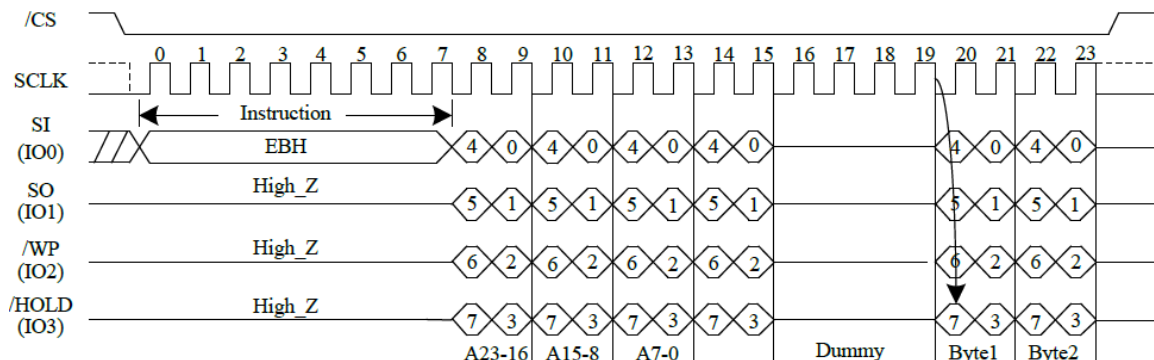
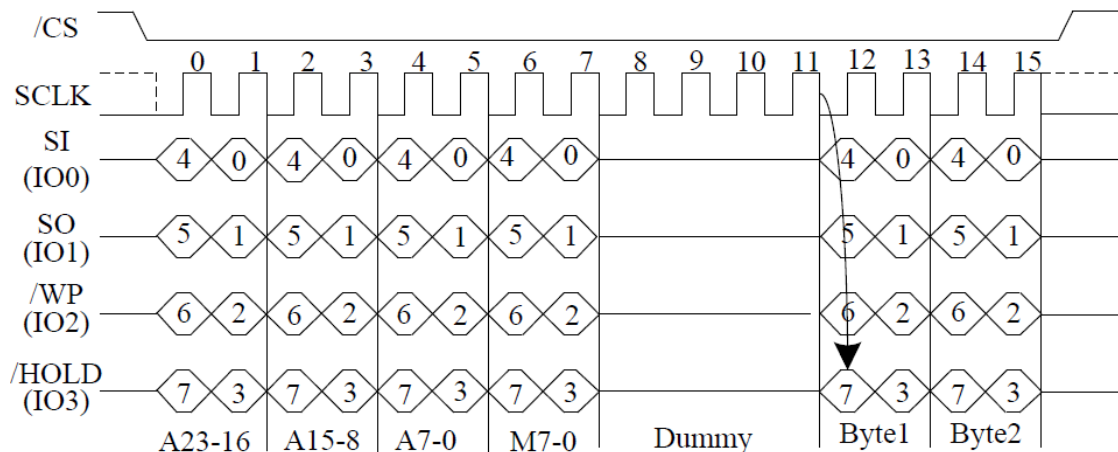

Figure13. Quad I/O Fast Read Sequence Diagram (Initial command or previous (M5-4≠ (1,0)),SPI mode only)
Figure14. Quad I/O Fast Read Sequence Diagram (Previous command set (M5-4)=(1,0)), SPI mode only)
See Figure 13, the Quad I/O Fast Read instruction is similar to the Dual I/O Fast Read instruction but with the capability to input the 3-byte address (A23-0) and a “Continuous Read Mode” byte and 4-dummy clock 4-bit per clock by IO0, IO1, IO3, IO4, each bit being latched in during the rising edge of SCLK, then the memory contents are shifted out 4-bit per clock cycle from IO0, IO1, IO2, IO3. The first byte addressed can be at any location. The address is automatically incremented to the next higher address after each byte of data is shifted out. The Quad Enable bit (QE) of Status Register must be set to enable for the Quad I/O Fast read instruction.
The Quad I/O Fast Read instruction can further reduce instruction overhead through setting the “Continuous Read Mode” bits (M7-0) after the input Address bits (A23-0), as shown in Figure 13, If the “Continuous Read Mode” bits (M5-4) = (1,0), then the next Fast Read Quad I/O instruction(after /CS is raised and then lowered) does not require the EBH instruction code, The instruction sequence is shown in the followed Figure 14. If the “Continuous Read Mode” bits M5-4 do not equal to (1,0), the next instruction requires the first EBH instruction code, thus returning to normal operation. A “Continuous Read Mode” Reset command can also be used to reset (M5-4) before issuing normal command.